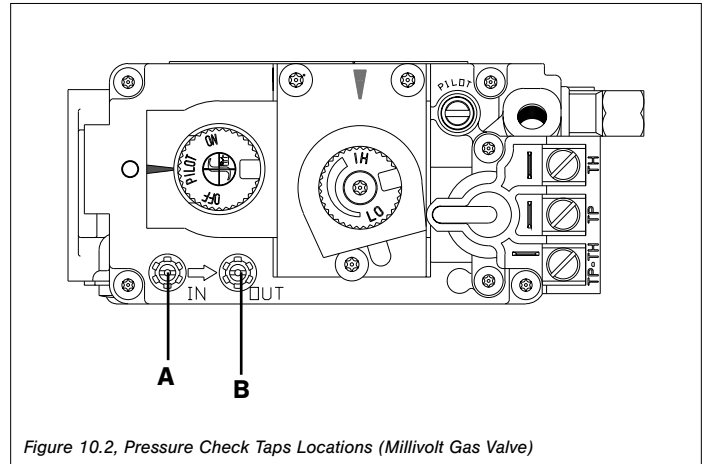

Figure 10.2, Pressure Check Taps Locations (Millivolt Gas Valve)
1. Loosen the inlet (IN) pressure tap by turning screw counterclockwise. See (A) in Figure 10.2.
8. Disconnect hose and tighten the inlet (IN) pressure tap by turning screw clockwise. Screw should be snug. Do not over tighten.
9. Relight pilot and turn the gas control knob to ON. Reattach manometer to the inlet pressure tap (A) to verify the tap is completely sealed. Manometer should read no pressure.
2. Loosen manifold (OUT) pressure tap by turning screw counterclockwise. See (B) in Figure 10.2.
7. Attach the manometer to the manifold pressure tap (B) to verify it is completely sealed. The manometer should read no pressure when the ON/OFF rocker switch is pressed to ON.